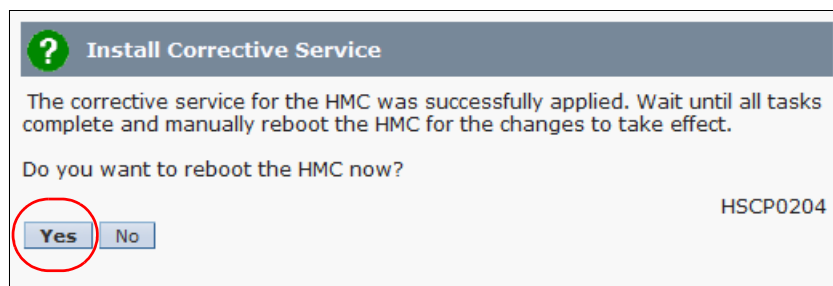

Figure 3-122 Reboot HMC after service installation
8. After the fix is successfully installed, click **Yes**, (Figure 3-122). You are logged off, and the HMC reboots.